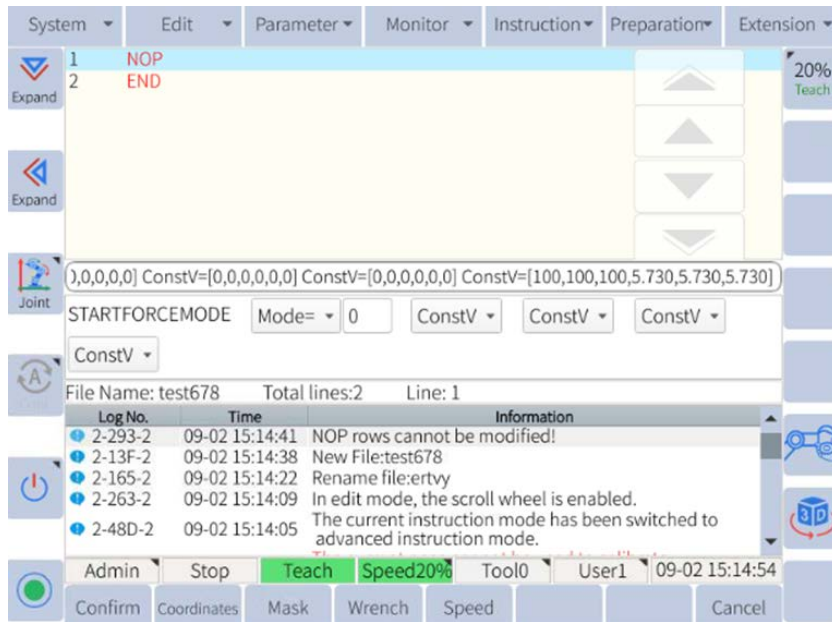

Figure 6-48: Modify the variable “V” to “ConstV”
- The user can also change “V” to “ConstV” by clicking the drop-down list, as shown in **Figure 6-48**.